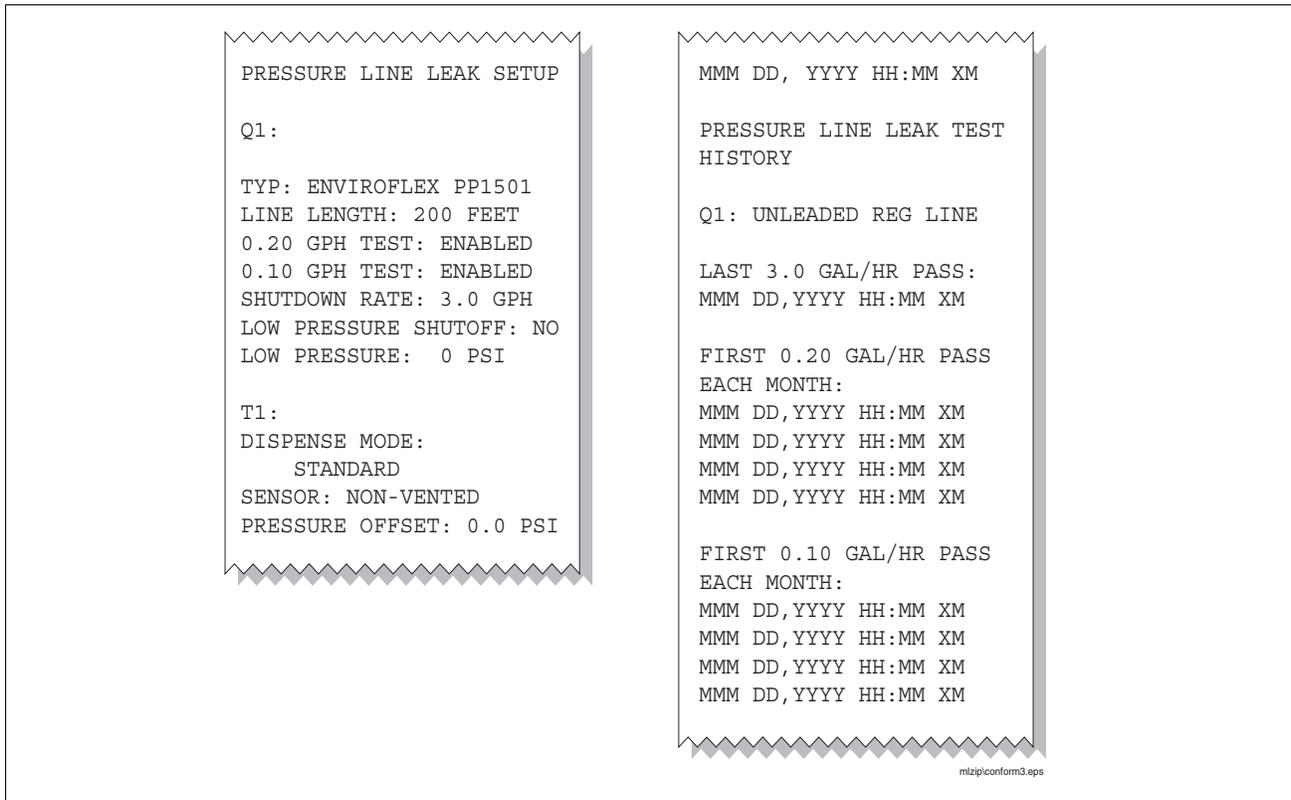

Figure 1. Pressure Line Leak Setup and History Report Examples
- Verify that the TLS-350 is programmed correctly for the Site and the application. Print out the applicable line leak setup and line leak test history before you start the testing (see Figure 1).